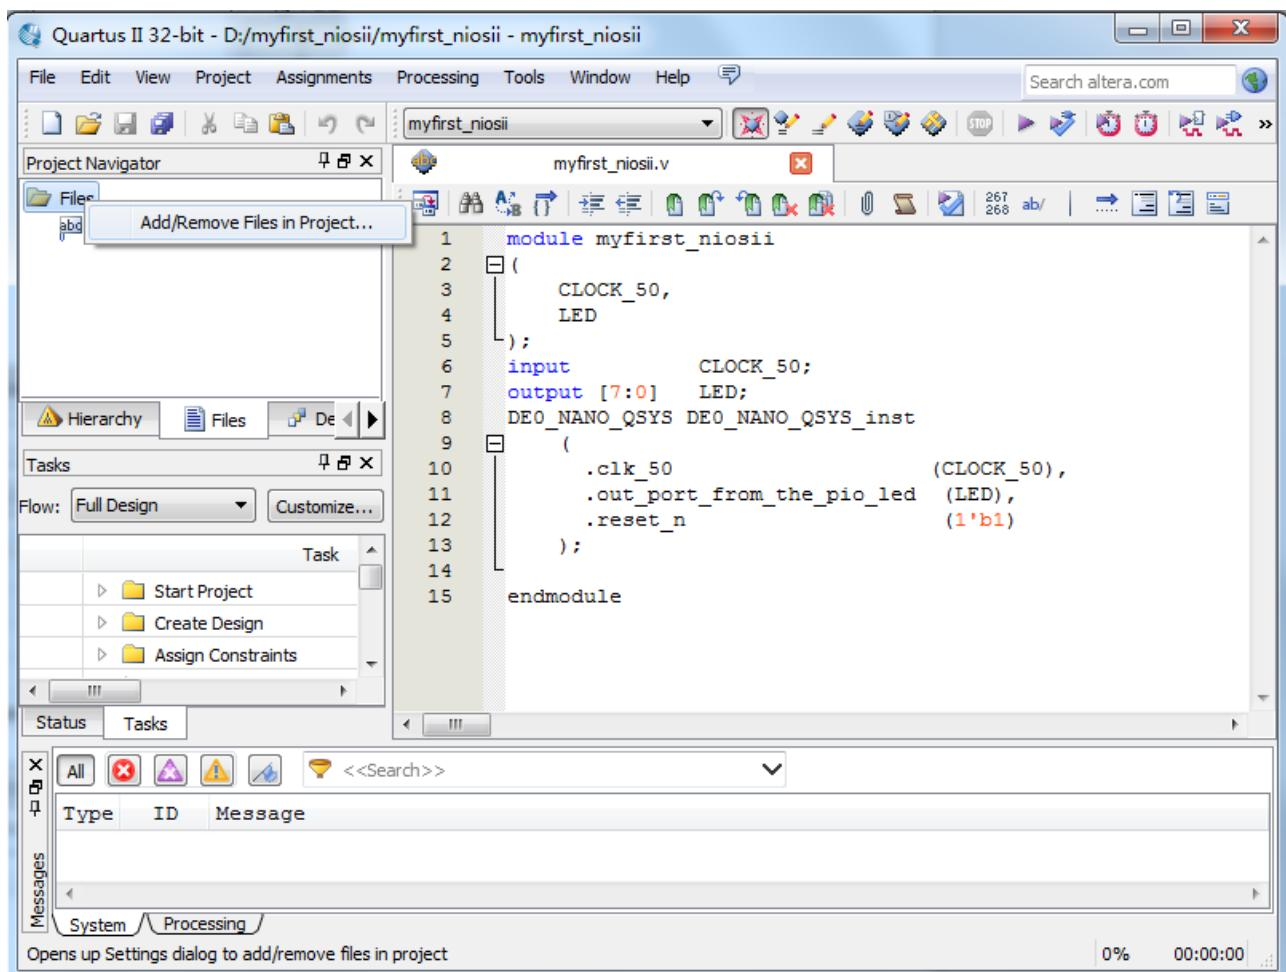
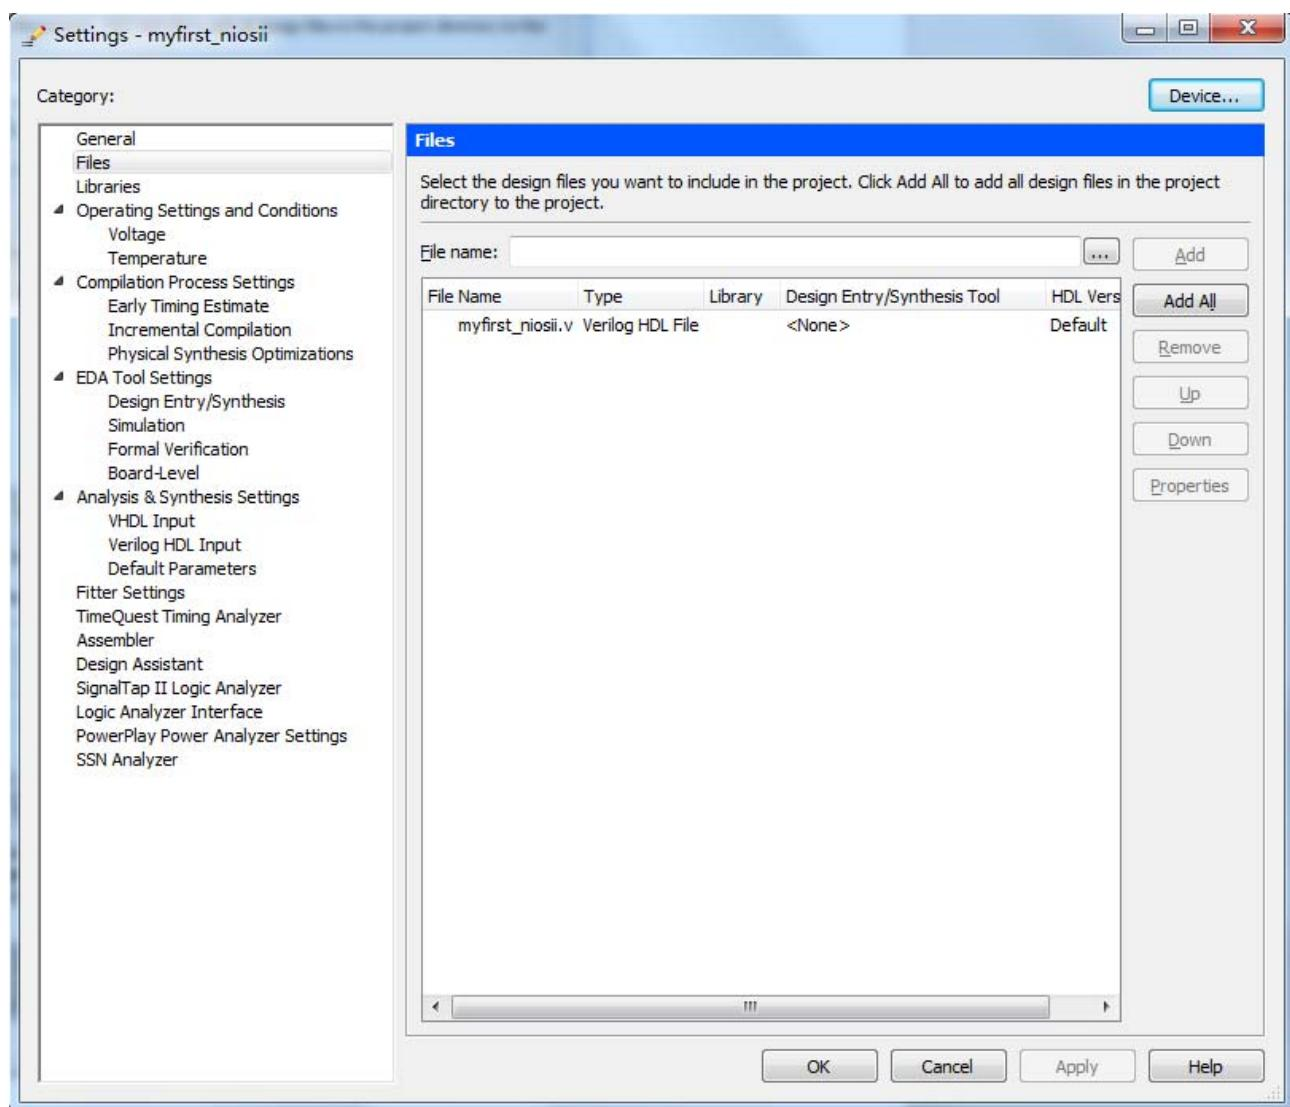
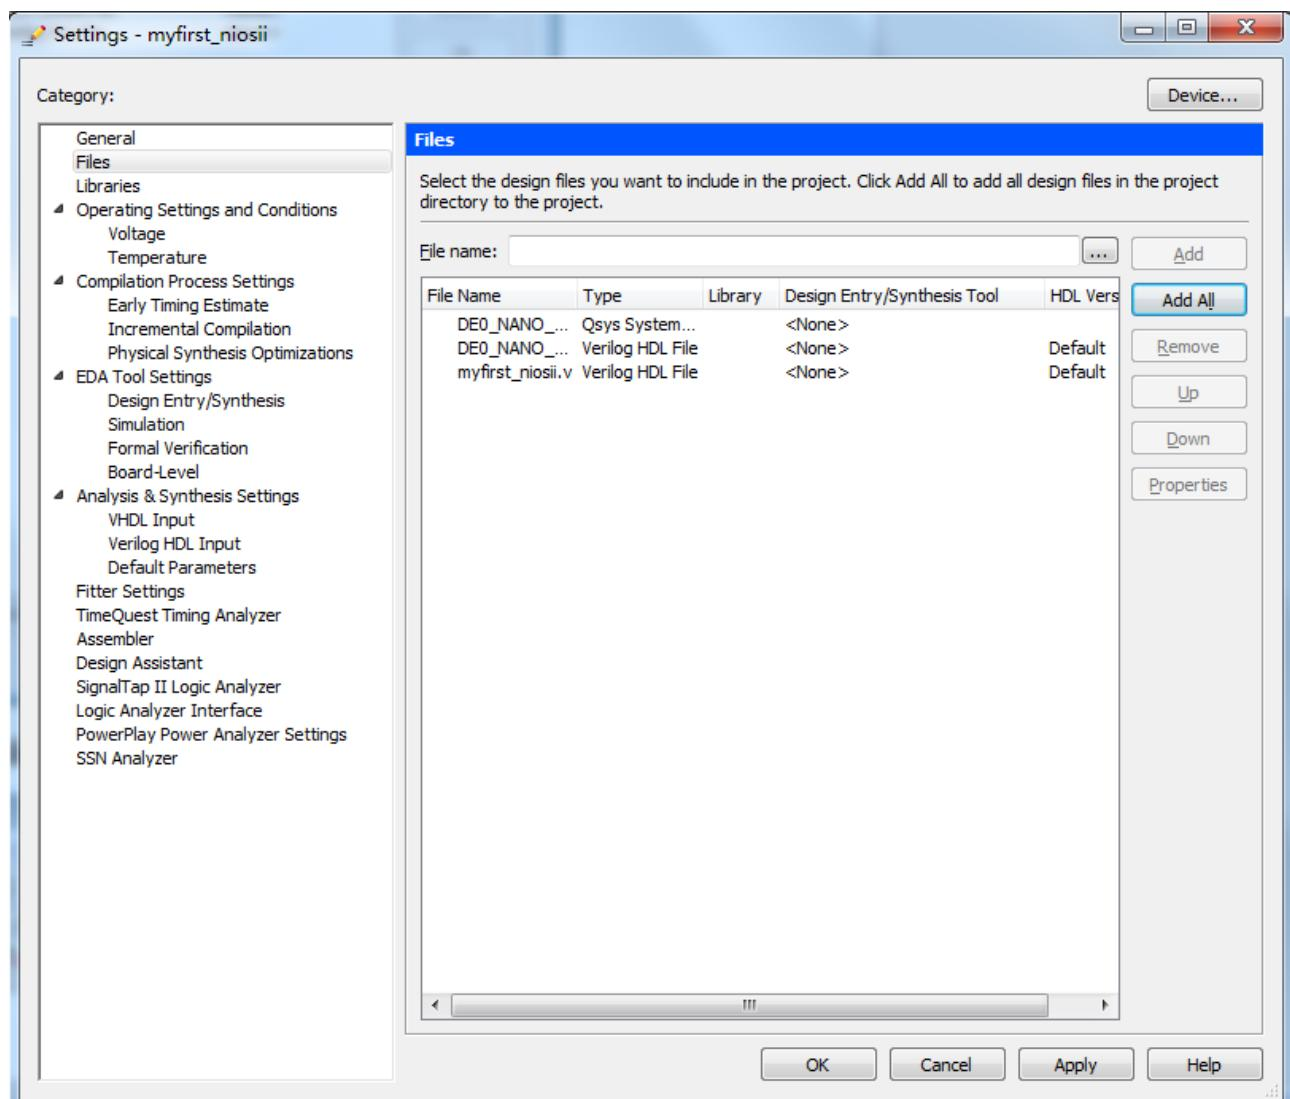

Figure 1-58 Add file
Figure 1-59 Add file
Figure 1-60 Add file
36. Add File in project as shown in Figure 1-58, add DE0_NANO_QSYS.qsys and DE0_NANO_QSYS.v to the project as shown in Figure 1-59 and Figure 1-60. it is completed as shown in Figure 1-.